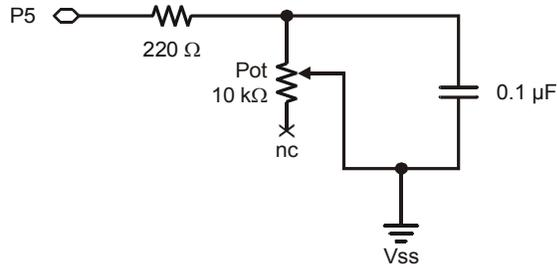
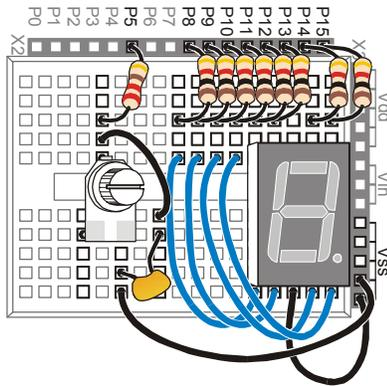

Figure 6-14
Figure 6-15
Figure 6-14 shows a schematic of the potentiometer circuit that should be added to the project. Figure 6-15 shows a wiring diagram of the circuit from Figure 6-14 combined with the circuit from Figure 6-10 on Page 168.
- √ Add the potentiometer circuit to the 7-segment LED display circuit as shown in Figure 6-15.